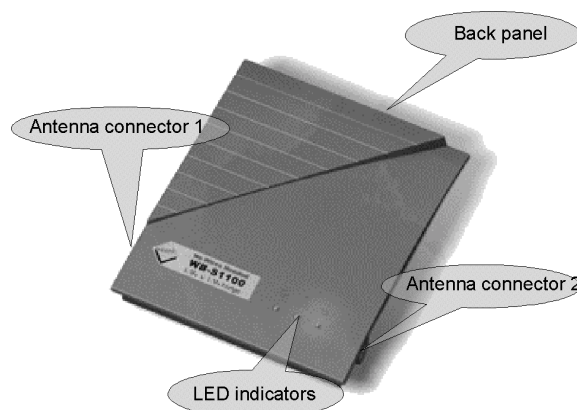

Figure 1.1: The bridge, the connectors and indicators
The bridge units are supplied with a choice of three different antennas. The type of antenna used depends on the type of link (point-to-point or point-to-multipoint) and the required range. All antennas are directional by nature; they cannot be made to radiate uniformly in all directions. Therefore, antennas are designed with controlled properties to guide available RF energy in the desired direction. This directivity multiplied by antenna efficiency is gain. Gain is expressed in decibels relative to a hypothetical isotropic source that radiates uniformly over a spherical surface. Figure 1.1 displays this diagram versus the isotrope. The gain of the isotropic source is the unity or zero decibels.
*This diagram displays the radiation power versus the direction. Figure 1.1 displays the radiation diagram of a patch antenna.*